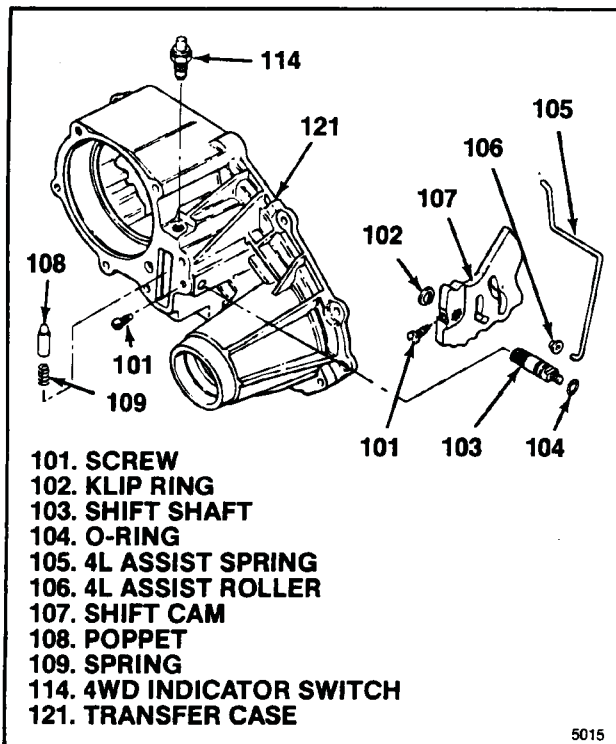

Figure 3-12. Mechanical Shift Cam Parts
**3-17. REMOVAL OF SHIFT CAM PARTS (MECHANICAL SHIFT TRANSFER CASE ONLY).** On mechanical shift units, remove the following (see figure 3-12):
- Remove two screws (101), one from transfer case (121) and one from shift cam (107).
- Remove klip ring (102) and shift shaft (103). Poppet (108) and spring (109) may pop out as shift